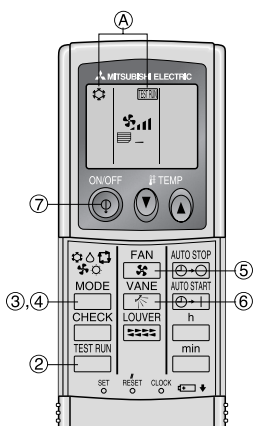

Fig. 7-2
7.2.2. Using wireless remote controller (Fig. 7-2)